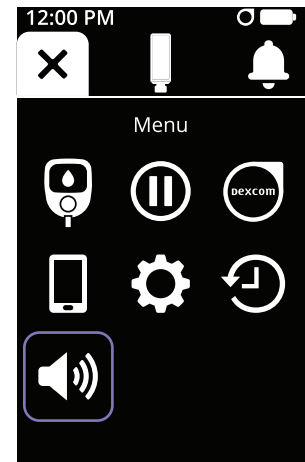

Figure 31
- Tap the **Volume** icon (see Figure 31).